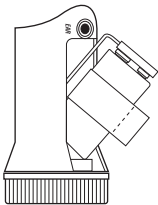

Figure 2
Remove Battery Cover (J) by pressing the release tab towards probe end of the case. Remove Battery Connector (H) and Battery Strap (I). Snap Connector to 9 volt battery and slide Strap over battery. Position Strap so that the finger tab is on the side of the battery. Insert battery into HOUND 3 case, placing bottom of battery against foam, and compressing the foam while completing the battery insertion (see Figure 2). Lead wires should be behind battery and “dressed” to allow battery to be fully inserted. The finger tab on the Strap should be sticking out of the Battery Compartment. This tab is used to remove the battery. Fold the tab over, and secure the Battery Cover to the case by inserting the end near the Earphone Jack (G) first, and snapping the opposite end of the Cover to the case.